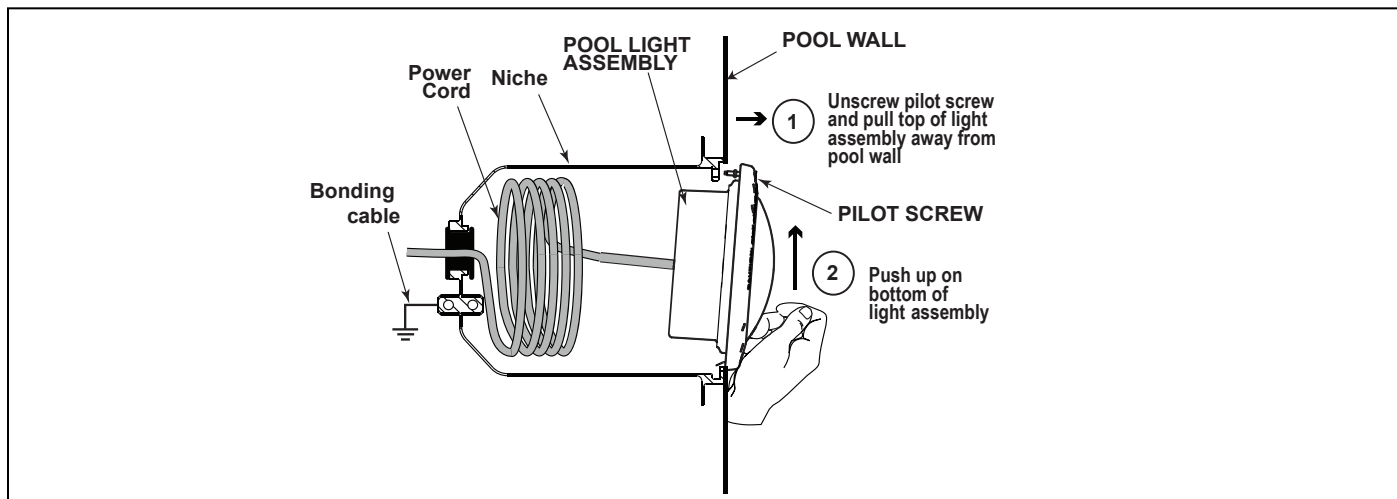

Figure 6. Removing the Jandy WaterColors Light Assembly for Light Engine Replacement
3. To remove the light assembly, unscrew the special pilot screw at the top of the face ring, remove light assembly from niche and gently place assembly on the deck. It is not necessary to drain down the pool. See Figure 6.